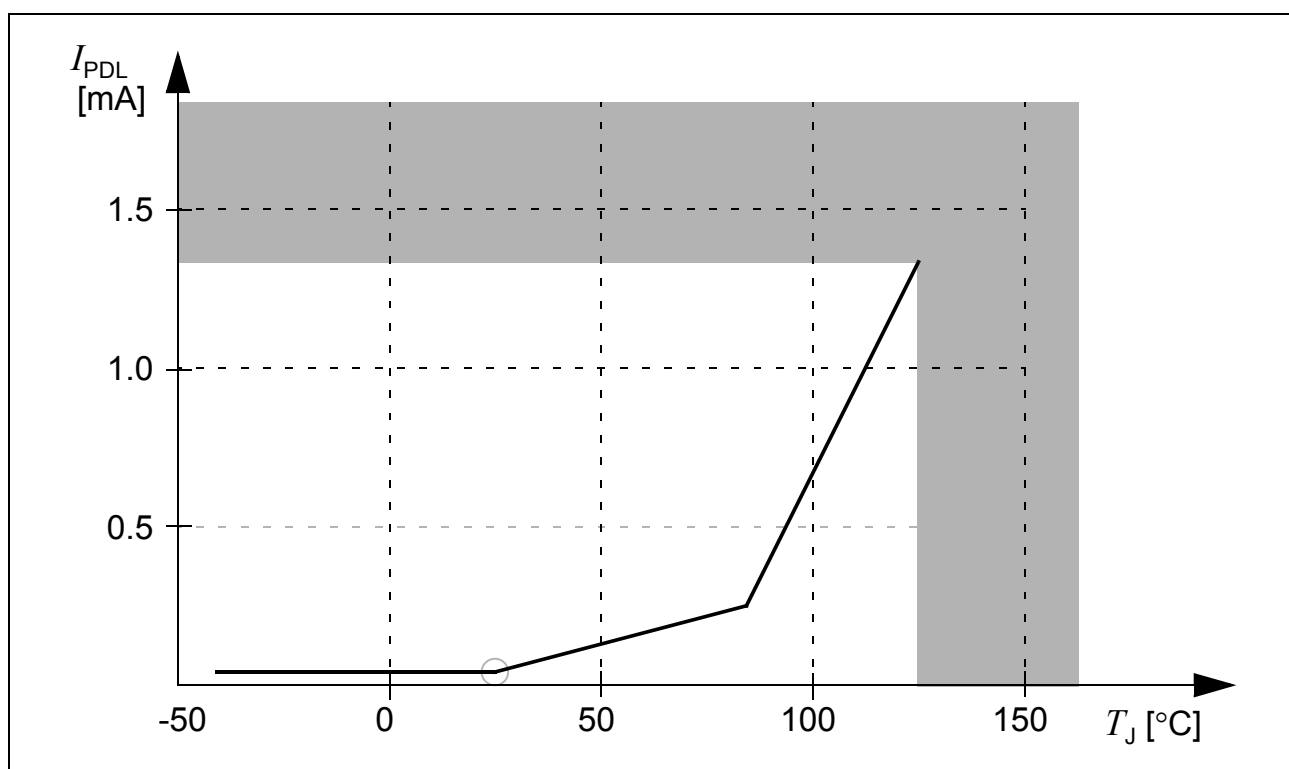

Figure 13 Sleep and Power Down Leakage Supply Current as a Function of Temperature
5) This parameter is determined mainly by the transistor leakage currents. This current heavily depends on the junction temperature (see Figure 13). The junction temperature T_J is the same as the ambient temperature T_A if no current flows through the port output drivers. Otherwise, the resulting temperature difference must be taken into account.